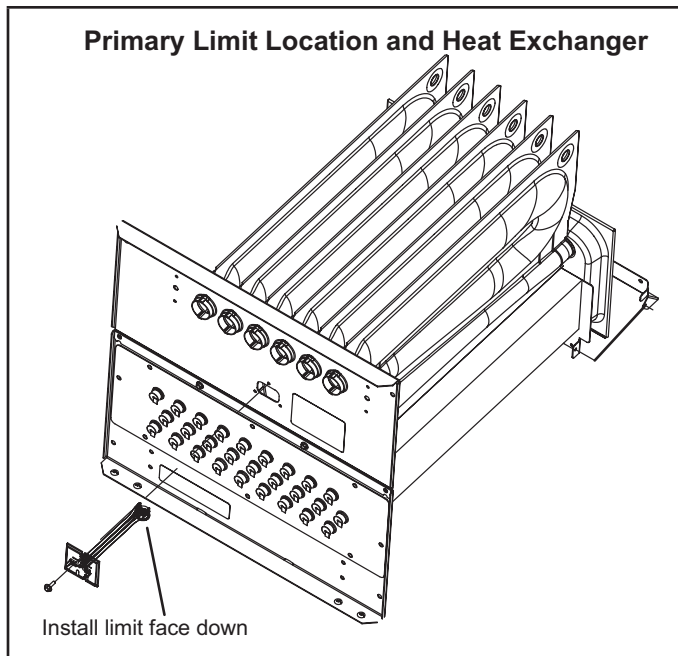

FIGURE 7
2. Heat Exchanger (FIGURE 7)
3. Primary Limit Control (FIGURE 7)